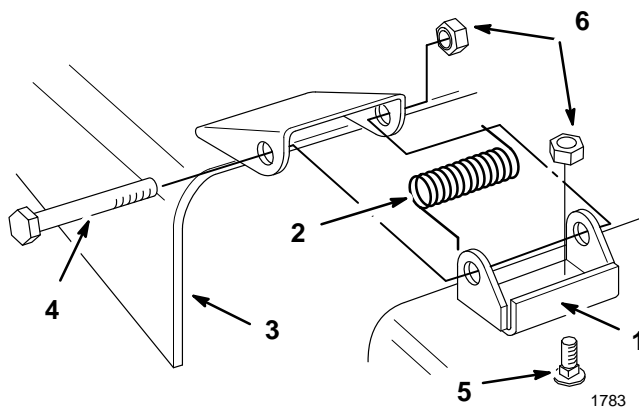

Figure 7
4. Remove discharge chute and mounting brackets from the mower (Fig. 7).